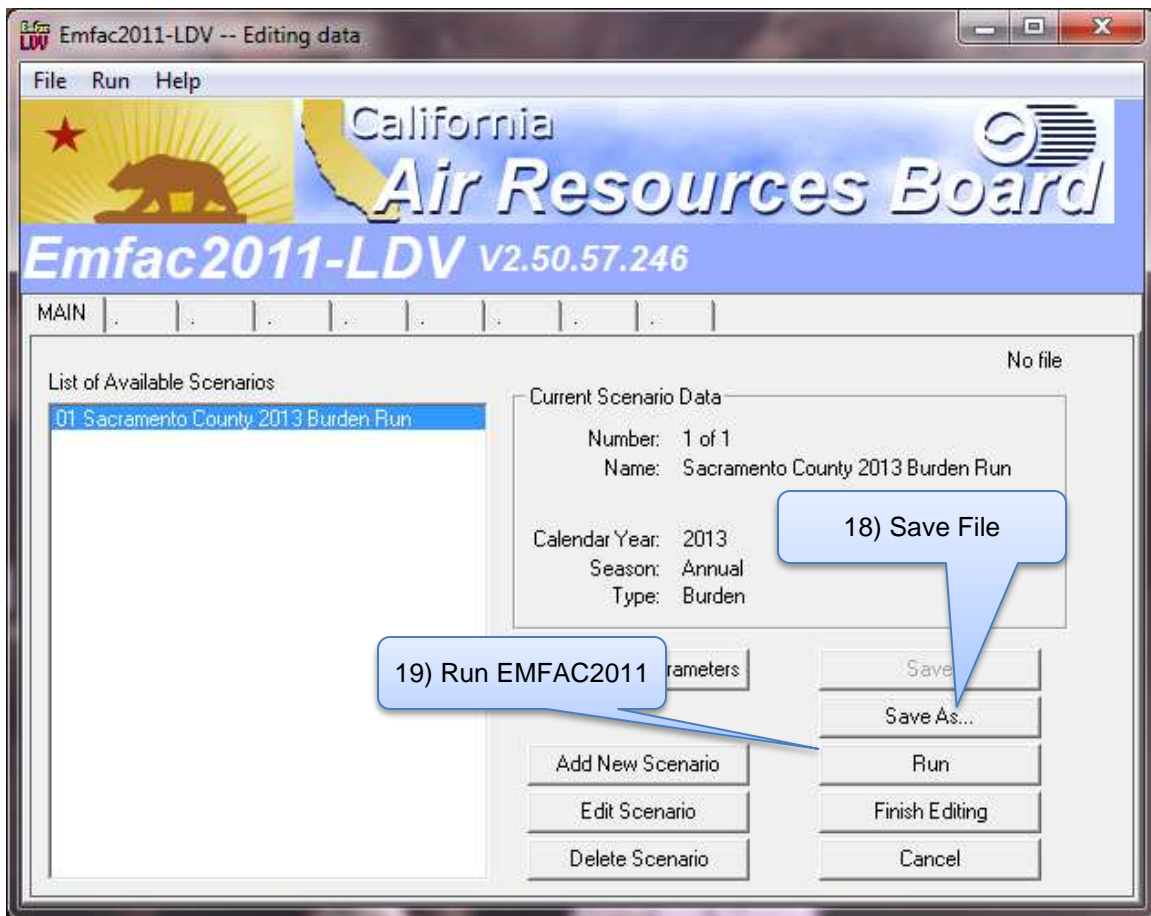

Figure 3-7 EMFAC2011 - Main
17. Click the “Finish” button. The screen should change, see Figure 3-7.